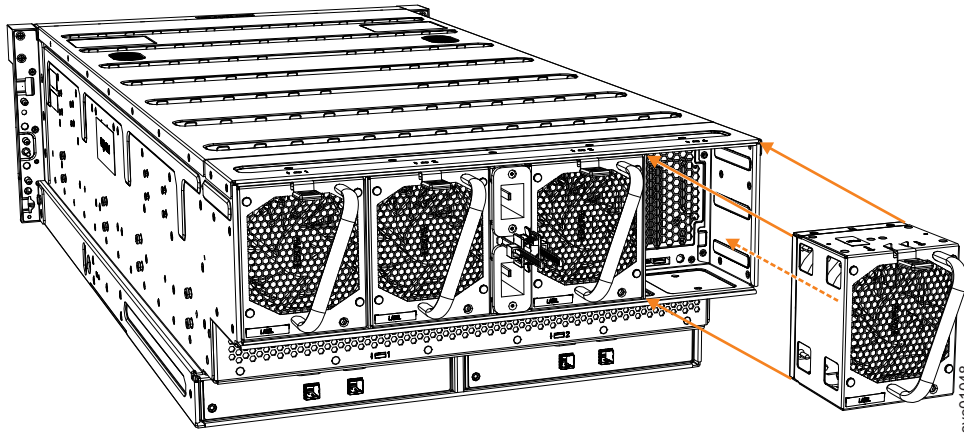

Figure 92. Remove fan module
3. Use the handle to pull the fan module out of the expansion enclosure chassis, as shown in Figure 92 on page 112.